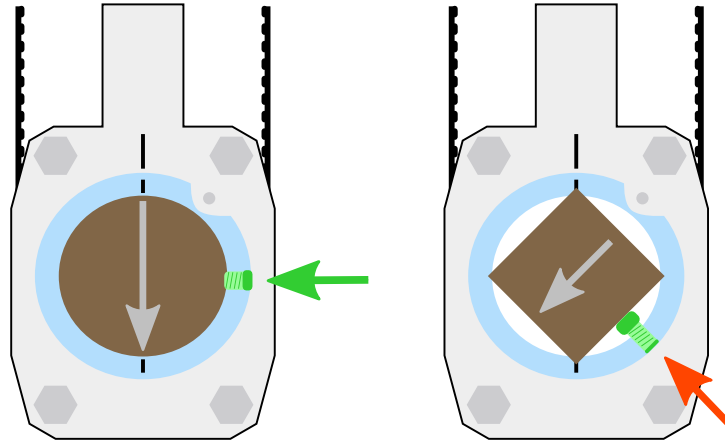

Figure 5: Position of fixing screws for cylindrical (left) and cubic (right) specimens
The cylindrical and cubic specimens are fixed into the shell using different fixing screws, as shown on Fig. 5. Default fixing screw installed into the shell is for cylindrical specimen.
1. Mount the specimen into the rotator as shown on Fig. 5.